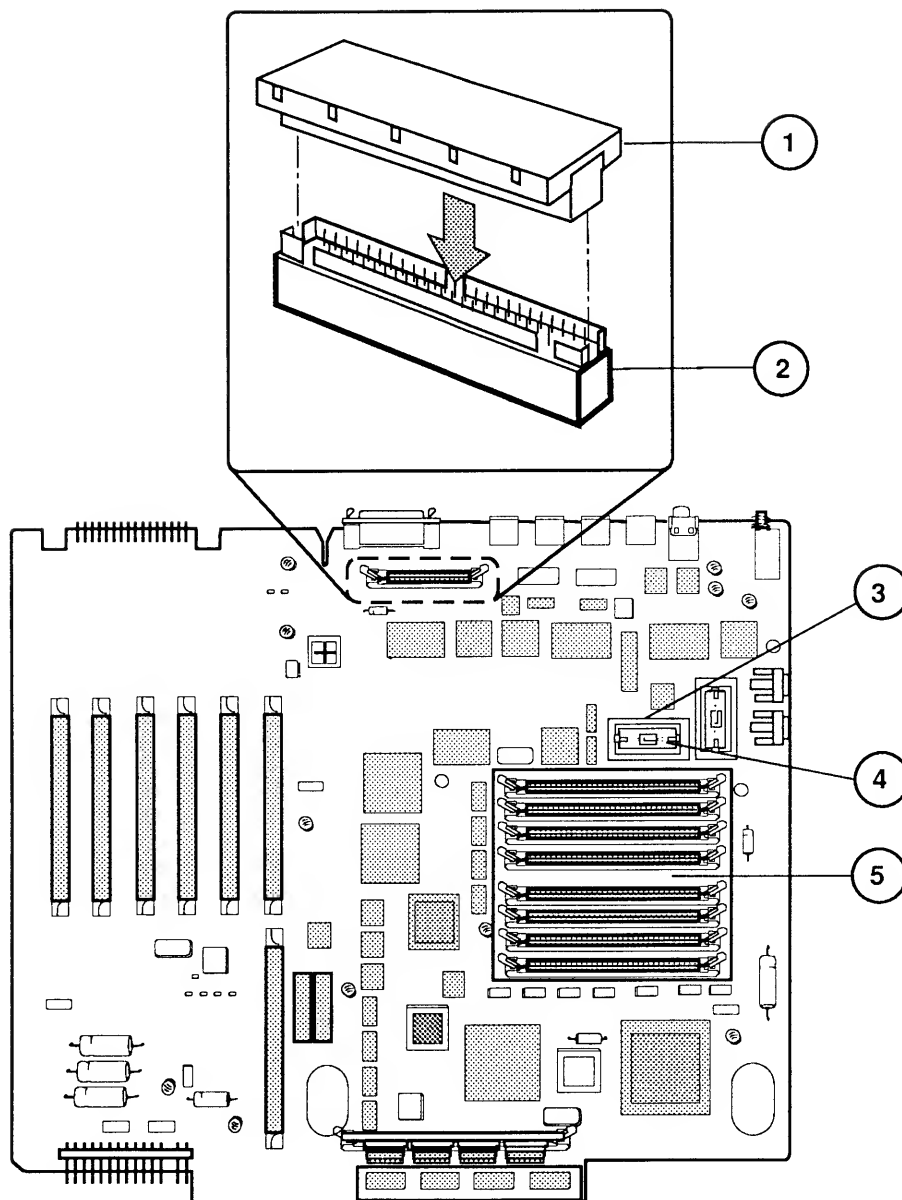

FIGURE 4
- IPL.9 Macintosh IIfx – Logic Board (Figure 4)
□ MACINTOSH IIfx—LOGIC BOARD (Figure 4)